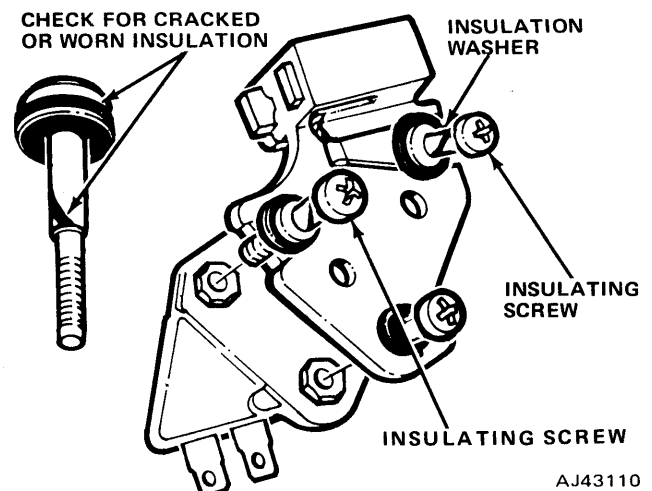

Fig. 3-34 Brush Holders
- (1) Remove two brush holder screws and one diode trio lead strap attaching screw. Note position of all insulator washers for assembly (fig. 3-34).
- (2) Inspect brush holder screws for broken or cracked insulation.
- (3) Remove brush holder and brushes. Carefully note stack-up of parts for assembly.
(2) Insert a straight wooden or plastic toothpick (to prevent scratching brushes) into hole at bottom of holder to retain brushes.
(3) Install voltage regulator.
(4) Attach brush holder into end frame, noting stack-up of parts (fig. 3-34). Allow wooden or plastic toothpick to protrude through hole in end frame.
(5) Install diode trio lead strap attaching screw and washer.
(6) Securely tighten remaining two brush holder screws.